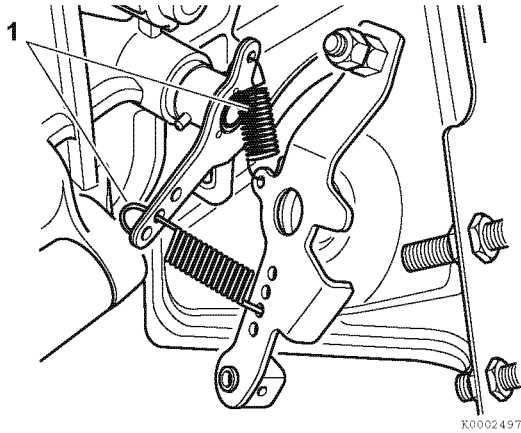

Figure 6-84
2. Pull the assembly away from the crankcase (1, **Figure 6-84**) and mark the position of each spring end for reassembly. Carefully remove each spring.